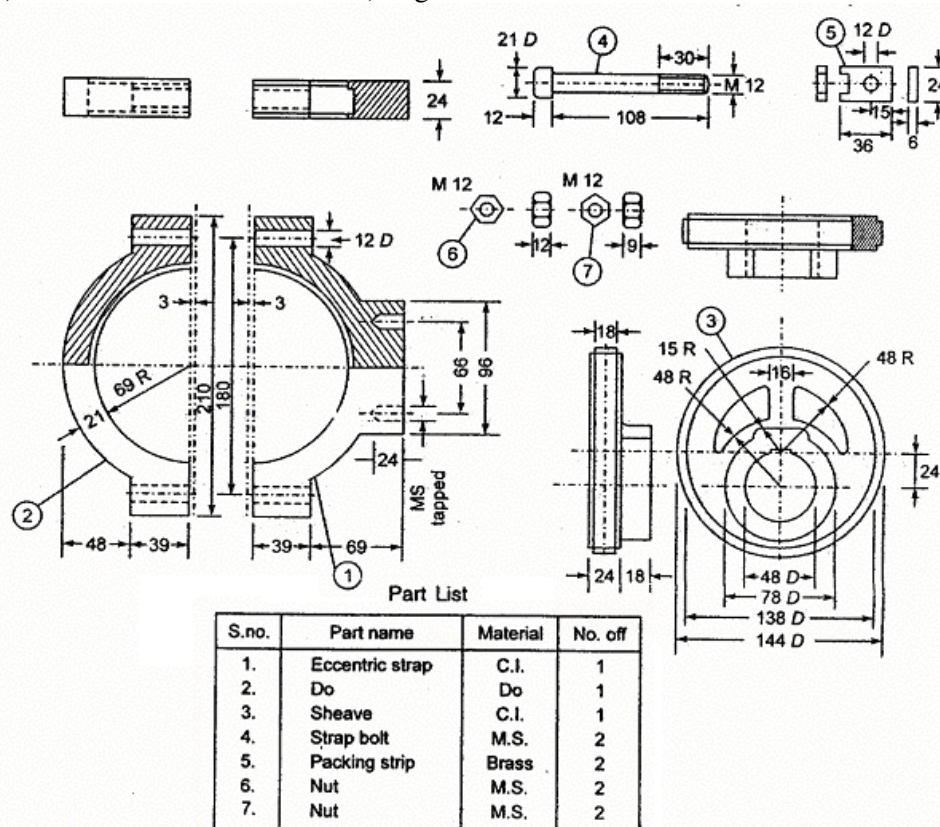

Fig. 1 Eccentric (Details)
4. Draw the following views at assembly of eccentric mechanism as shown in Figure 1. (48M)